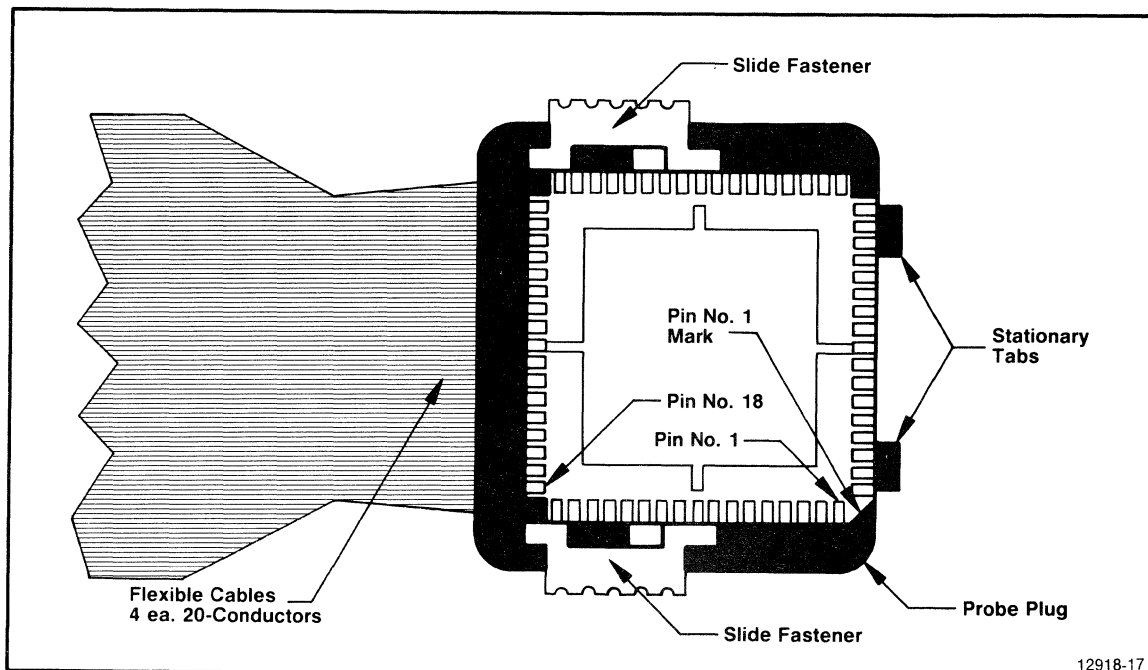

Figure 6-8. Pin identification and proper plug insertion.
The 68-pin JEDEC Type A probe plug at the end of the four 1-foot flexible cables fits into a 3M Textool 68-pin chip carrier socket in the prototype hardware. Pin 1 on the plug must be mated with the corresponding pin 1 in the socket. A mark is located near pin 1 on both the plug and the socket to aid in pin identification, as illustrated in Figure 6-8.
If the prototype control probe plug is incorrectly inserted in the prototype socket, damage to the prototype control probe or to the prototype may result. Refer to Figure 6-8 and the following procedure to ensure proper plug insertion.
Three of the probe plug's corners contain square notches that are used as indexes to ensure correct plug alignment. The fourth corner, Pin No. 1 Mark, is cut on a 45 degree bias. (Refer to Figure 6-8.) The 3M Textool socket has three guide boss pins that mate with the square notches and a spring lever that mates with the corner marked as Pin No. 1.
2. Move the wire bail on the socket to its open position. Ensure that the slide fasteners on the probe plug are in their retracted positions. Figure 6-8 shows the slide fasteners in their retracted positions.